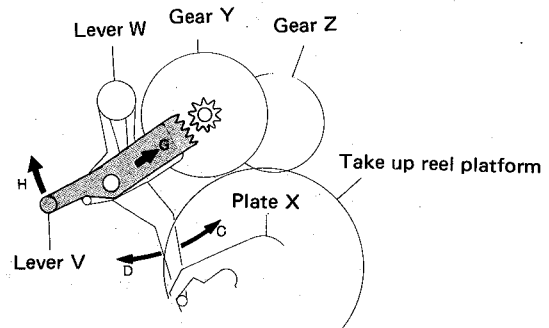

Fig. 15
- 3) When stud of lever W moves into gap "F", lever V for mechanism release is moved in the direction of "G", and then is engaged with gear Y. Finally, the other side of lever V is lifted in the direction of "H" and the FWD mechanism can be released. (See Figure 15.)